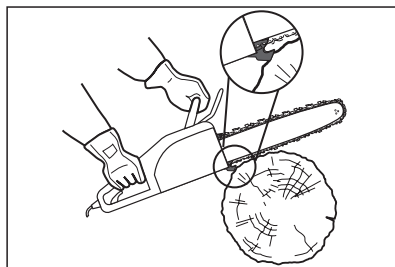

Fig. 7b
6. Ensure the saw chain (3) is running at full speed before it makes contact with the wood. Use the spiked bumper (8) to secure the product onto the wood before starting to cut and use it as a leverage point while cutting (Fig. 7b).